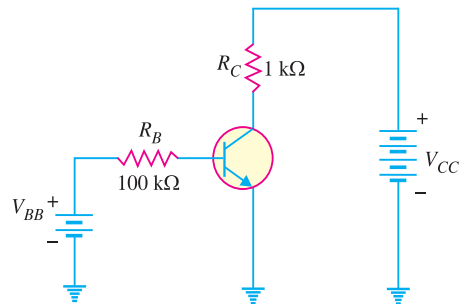

Fig. 8.74
14. A base current of 50  $\mu\text{A}$  is applied to the transistor in Fig. 8.74 and a voltage of 5V is dropped across  $R_C$ . Calculate  $\alpha$  for the transistor. [0.99]